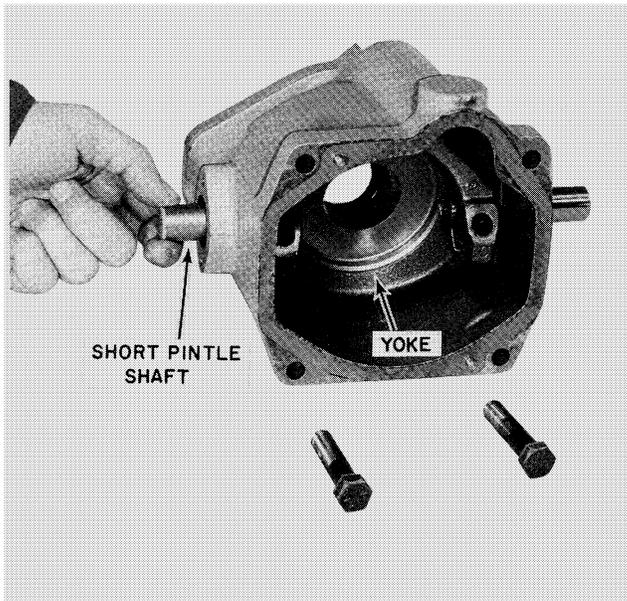

FIGURE 32
22. Remove the short pintle shaft by using a small brass rod and hammer, tapping out until the pintle is free from the yoke. The shaft can then be removed as shown in Figure 32.